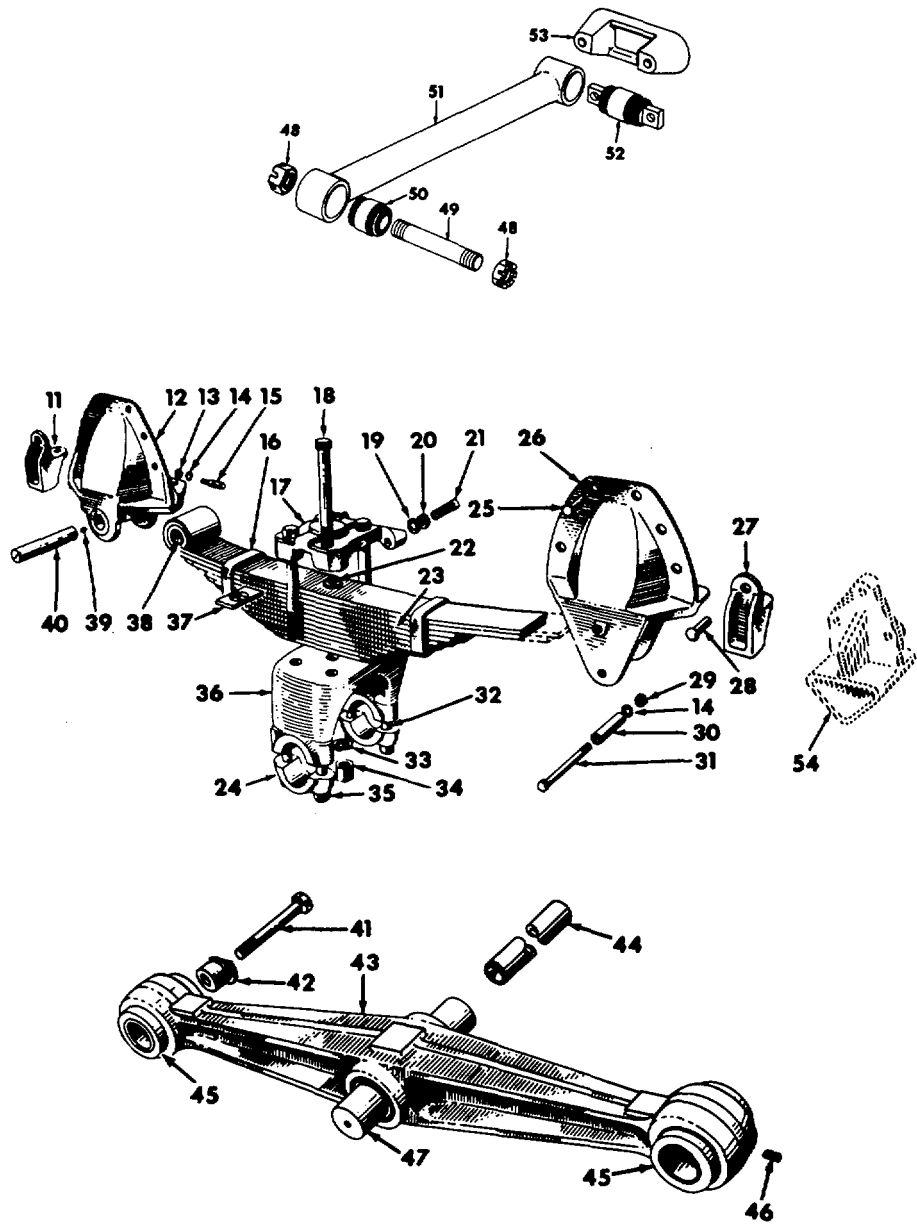

Fig. 13 Exploded View of Leaf Spring Type Suspension
2. Position spring top pad slide (Fig 13) over "cup" on main spring leaf.
Legend for Fig. 13